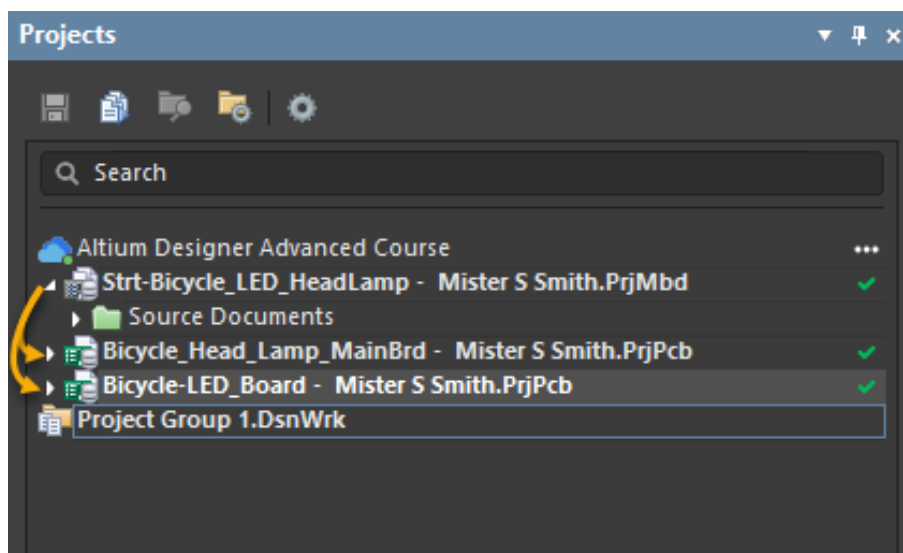

Figure 10. Project Panel with MB project and the two PCB projects
26. The *Project* panel was updated with the new information. The two PCB Projects are now included in the project structure, as sub projects from the MB Project. Figure 10.